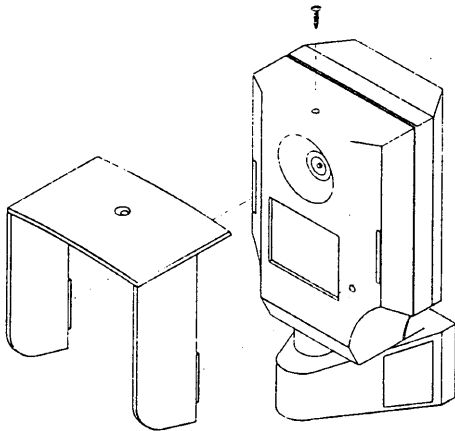

Figure 33. Protective Hood.
For applications where the Camera Unit is to be mounted outside, in a position prone to wet weather, a protective hood fitted to the Camera Unit is recommended, as shown below in figure 33.
- Step 2. There are two slits in the front of the Camera Unit, and a screw on the top of the Camera Unit which are used to fasten the Protective hood to the unit. Place the protective Hood in position as shown in figure 33.